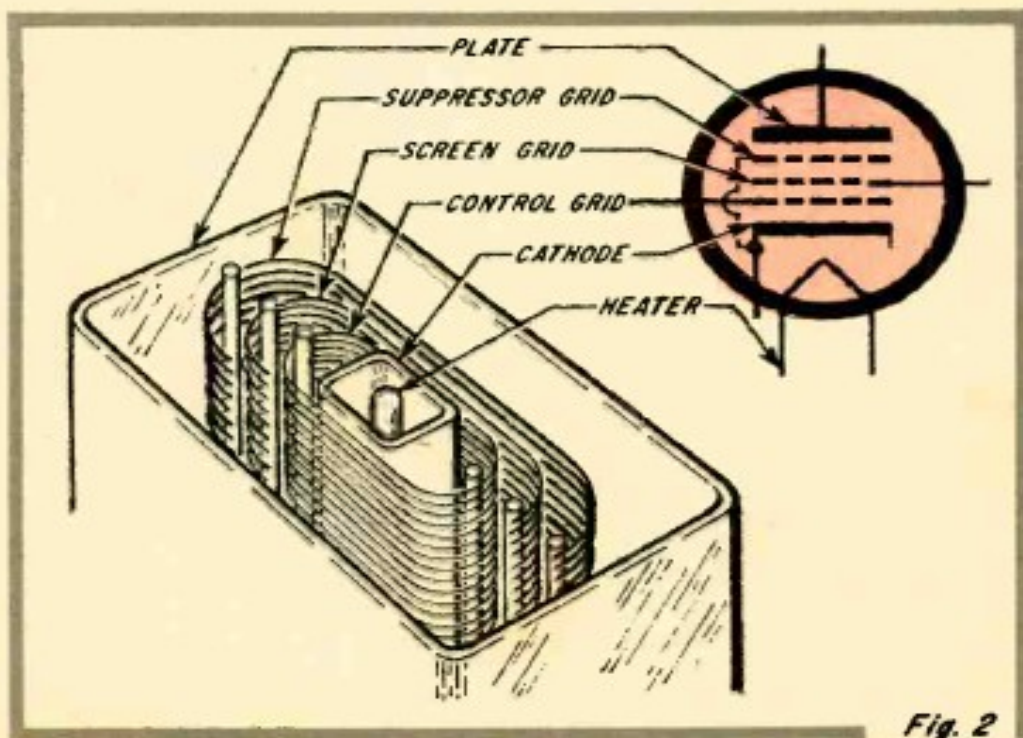

Fig. 2
Passing an electric current through the emitter is a good way to make it hot enough to emit electrons, but there are times we do not want heating current going through the emitting material. In that case, we simply form the material into a sleeve and slip it over the filament as has been done with the tube shown in Fig. 2. The temperature of this sleeve, or *cathode*, is raised by heat radiated from the filament. With this arrangement, the filament is called a heater since it has the job of heating up the cathode to make it emit electrons.
**Current Without Wires.** You probably have heard of diode, triode, and pentode tubes (that's a pentode in Fig. 2); but did you ever hear of the *monode* one-element vacuum tube? That's odd; it's the most common type. Every incandescent lamp bulb is a monode vacuum tube! It has a heated, electron-emitting filament inside a vacuum, doesn't it? Admittedly, though, it's not much good for working vacuum-tube magic. The emission of negative electrons leaves the filament with a positive charge that tends to draw them back to it; furthermore, the electrons already emitted are pretty repulsive to would-be AWOL electrons. (Like charges repel, you know.) The end result is a kind of fountain-in-a-fishbowl action in which electrons are constantly leaving the filament or cathode and returning with no really significant change in the electronic *status quo*.
Replace the AC transformer of Fig. 2 with an RF or IF transformer, substitute